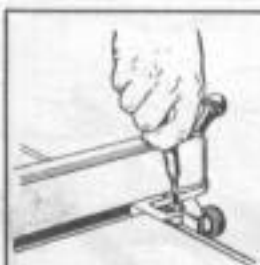

Figure 15
- With the rip fence on the right-hand side of the saw blade, set the right-hand indicator to "0" (zero) on the gear rack. (See figure 15.)